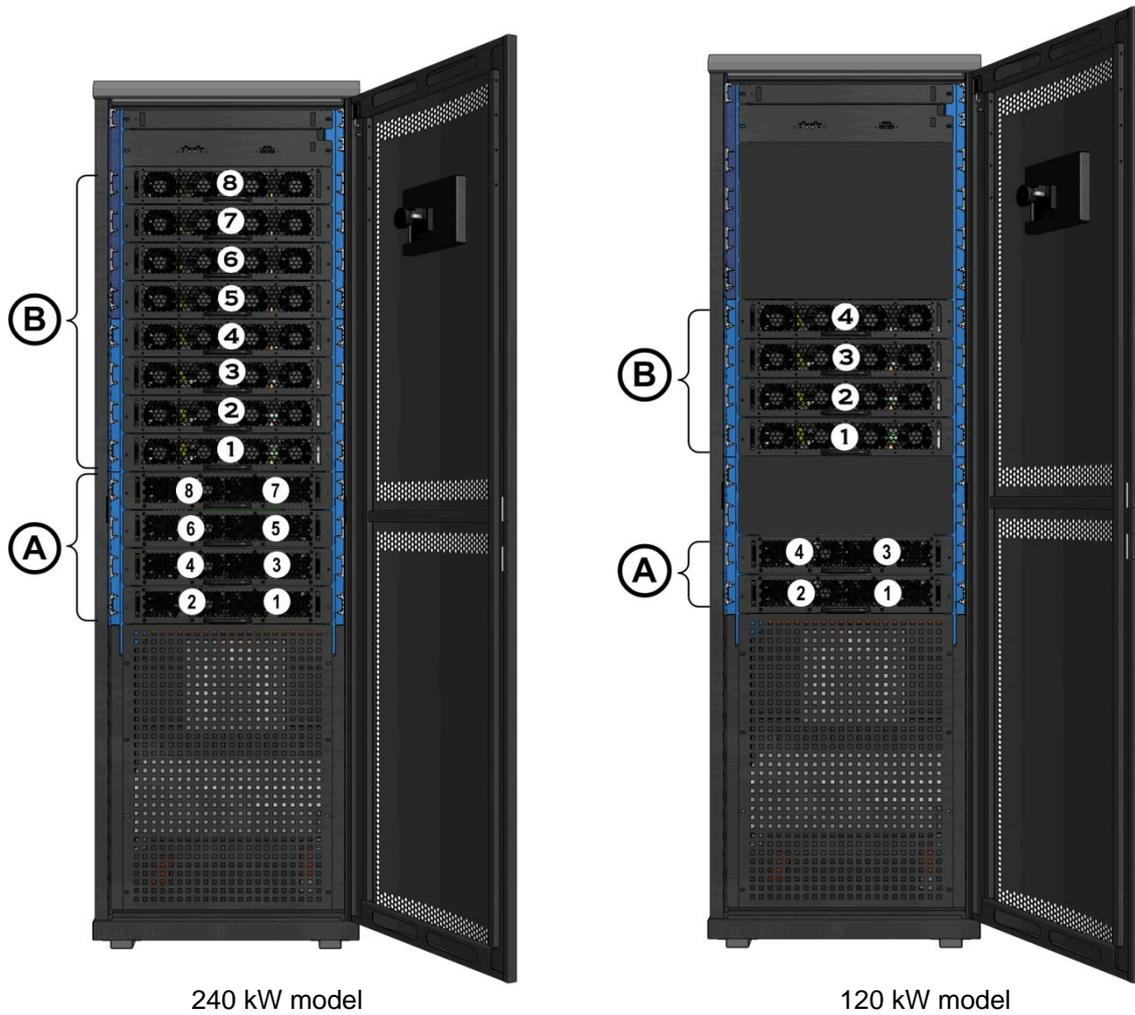

Figure 39: Location of the UPS modules in the 240 kW and 120 kW models
2. Verify that there are sufficient dc-dc blocks installed for the number of UPS modules you intend to install. Figure 39 shows the location of the dc-dc blocks.
Table 12: Key to Figure 39